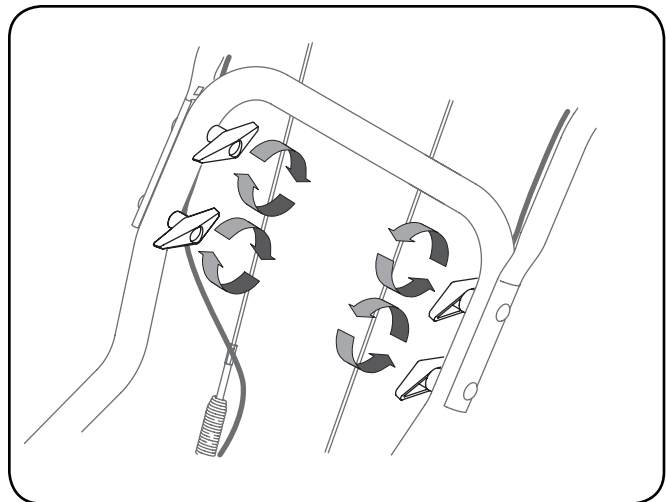

Fig. 3-2
- Remove the lower handle knobs, washers and carriage bolts (and support tubes if equipped as shown in inset) from each side of the lower handle. See Figure 3-2.